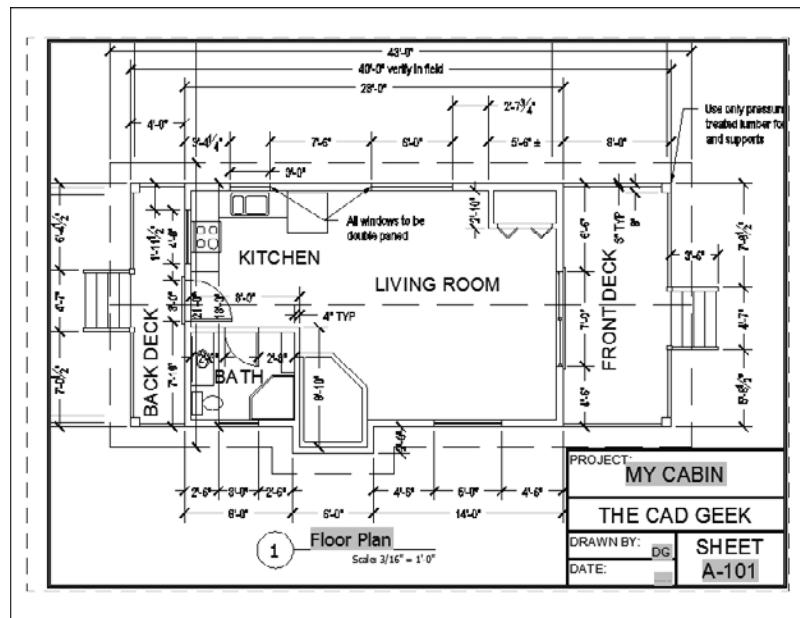

FIGURE 14.67 The A-101 Floor Plan layout after the layers in the viewport are selectively frozen
6. Close the Layer Properties Manager palette to return to your drawing. With these layer changes complete, your drawing should look like Figure 14.67.